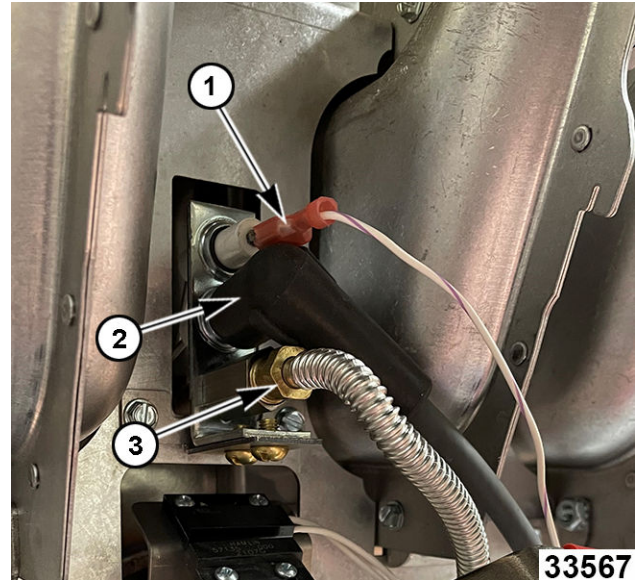

Fig. 67
1. Disconnect flame sense wire (1, Fig. 67) from flame sensor terminal.
2. Remove electrode cable (2, Fig. 67).
3. Disconnect pilot gas tube. (3, Fig. 67).